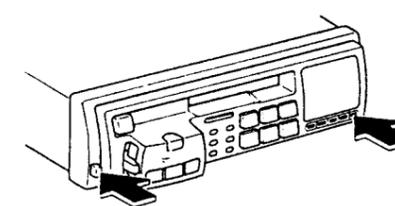

Fig. 2
1. Press the PWR button 10 to turn the power Off. (Fig. 2)
2. Press the Release button. (Fig. 2)
- (1) Remove four screws marked "●" as shown in Figure 2.
(2) Disconnect one Connector from the Cassette Deck.
- (1) Remove seven screws marked "■" as shown in Figure 2, 3.
(2) Disconnect two connectors from the Main P.C.Board.
<Figure 2>